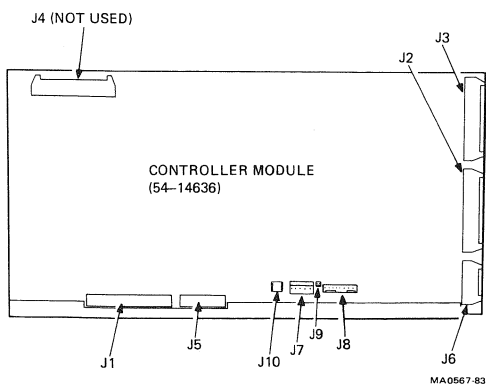

Figure 4-15 Controller Module
4. Release cable connectors and grounds at controller module jacks J1 (drive 0 control cable), J2 (drive 1 control cable), J3 (LESI cable), J5 (drive 0 read/write cable), J6 (drive 1 read/write cable), J7 (power), J9 (sense), and grounds at J10 (Figure 4-15). Jacks at J1, J2, J3, J5, and J6 are the lock/eject type. Grasp two tabs at ends of jack and rotate out. This releases cable connector.
2. Plug appropriate cable and ground connectors into jacks J1 through J3 and J5 through J10 of controller module (Figure 4-15). Jacks at J1, J2, J3, J5, and J6 are the lock/eject type. Push cable connector in as far as it will go without forcing. Then grasp two tabs at ends of jack and rotate in. This seats cable connector.
3. **Perform this step for master drive only.** Rotate controller module up on its hinges to reach connecting plugs. On controller module, remove cable connectors at jacks J2, J3, and J6 (Figure 4-15). Jacks J2, J3, and J6 are the lock/eject type. Grasp two tabs at ends of jack and rotate out. This releases cable connector.
6. **Perform this step for master drive only.** On the controller module, plug in cable connectors at jacks J2, J3, and J6 (Figure 4-15). Jacks J2, J3, and J6 are the lock/eject type. Push cable connector in as far as it will go without forcing. Then grasp two tabs at ends of jack and rotate in. This seats cable connector. Rotate controller module back down so it lays flat against drive module standoff legs. Make sure cables attached to rear plate are folded in and out of the way of the cover.
3. **Perform this step for master drive only.** Rotate controller module up on its hinges to reach connecting plugs. On the controller module, remove cable connectors at jacks J2, J3, and J6 (Figure 4-15). Jacks J2, J3, and J6 are the lock/eject type. Grasp two tabs at ends of jack and rotate out. This releases cable connector.
7. **Perform this step for master drive only.** On the controller module, plug in cable connectors at jacks J2, J3, and J6 (Figure 4-15). Jacks J2, J3, and J6 are the lock/eject type. Push cable connector in as far as it will go without forcing. Then grasp two tabs at ends of jack and rotate in. This seats cable connector. Rotate controller module back down so it lays flat against drive module standoff legs. Make sure cables attached to rear bezel are folded in and out of the way of the cover.